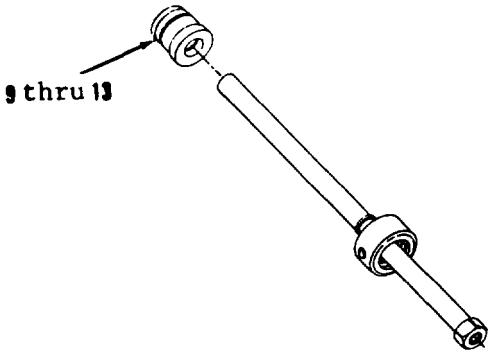

Figure 15-4.
7. Remove items 9 thru 13 as an assembly (Figure 15-4).
- 5. Install items 13 thru 9 as an assembly (Figure 15-4).